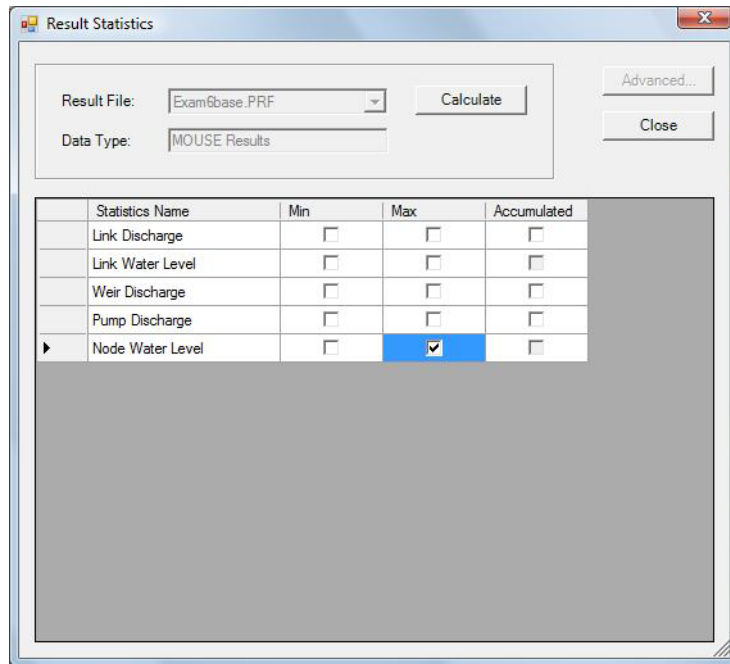

Figure 23.14 Computing results statistics
- Go to 'Model Results|Results Statistics'. The dialog displayed in Figure 23.14 appears. Choose to calculate the maximum water level and press the 'Calculate' button.